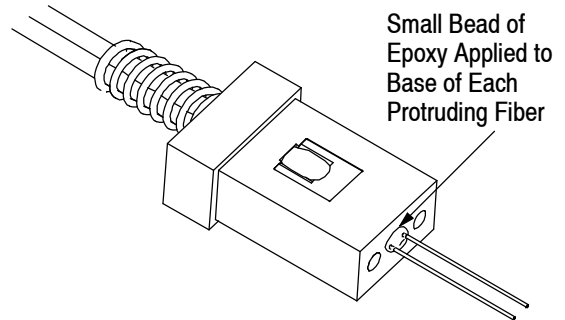

Figure 23
7. Apply a small bead of epoxy (approximately 600- $\mu$ m in diameter) to the base of each protruding fiber. If needed, dispense additional epoxy into the ferrule window. The fibers must be covered; however, the epoxy must not protrude above the ferrule exterior surface. See Figure 23.